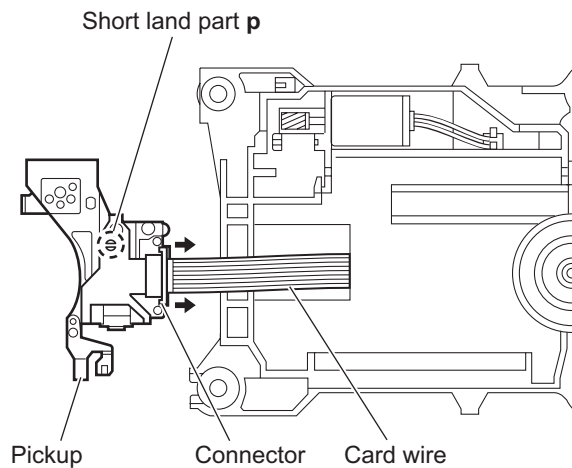

Fig.9
- Solder the short land part **p** of the pickup. (See Fig.9)
- Release the lock of the connector to direction of the arrow, and then disconnect the card wire. (See Fig.9)
- Solder to short land part **p** of the pickup then disconnect the card wire from connector. If disconnect the card wire before soldering, pickup is make sure destroyed by static electricity. (See Fig.9)
- When reattaching the pickup, connect the card wire to connector and then remove the solder from short land part **p**. (See Fig.9)
- Connect the card wire to connector of pickup, and then remove the solder from short land part **p** of the pickup. (See Fig.9)